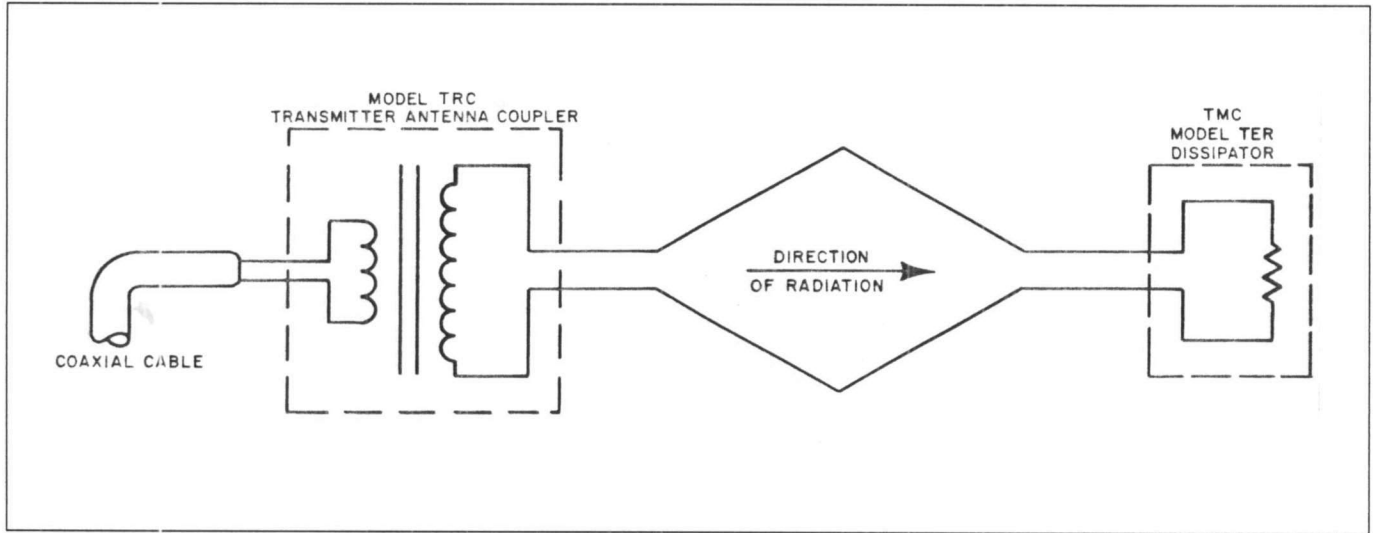
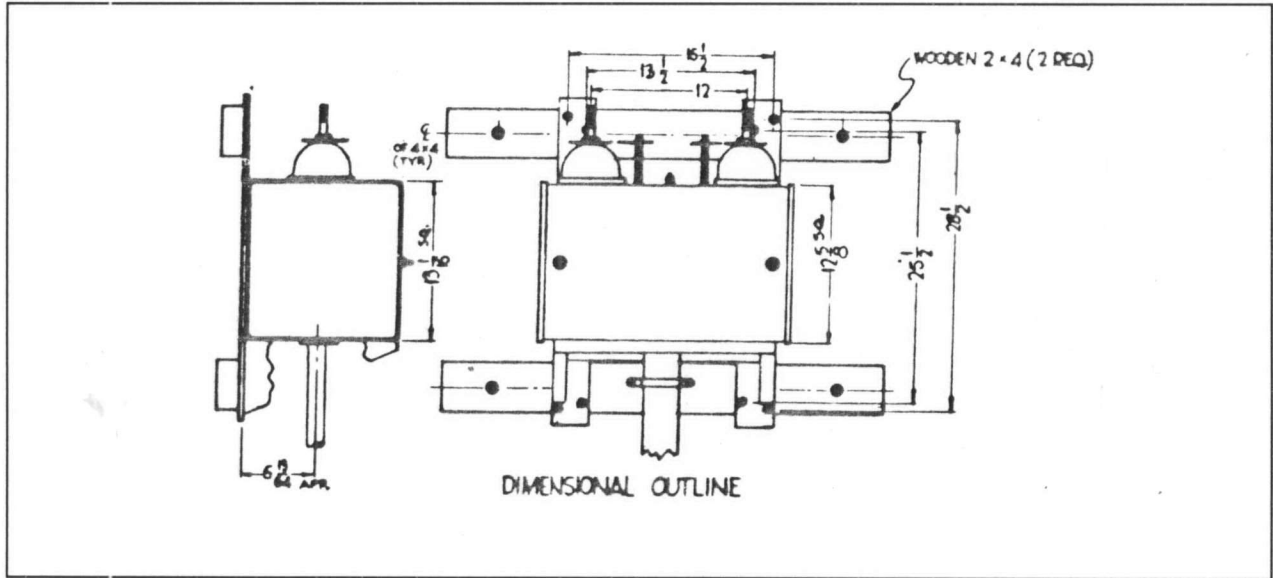

Figure 2.1 Schematic Diagram, Typical Rhombic Antenna System
Figure 2.2 Outline Drawing with Mounting Dimensions
- Figure 2.1** **Schematic Diagram, Typical Rhombic Antenna System**
- Figure 2.2** **Outline Drawing with Mounting Dimensions**
The TRC coupler consists of one broadband transformer housed in a re-inforced fiberglass case for operation in any ambient environment from -50°C to +75°C. Spark gaps provide protection against static electricity on the antenna as well as lightning discharge. Mounts are provided for either pole or wall mounting. Since no maintenance is required, the coupler may be placed in any isolated area, such as an antenna farm. Outline and mounting dimensions of the TRC-20K are shown in Figures 2.2 and 2.3.
The TRC-20K is designed for either pole or wall mounting. For pole mounting, two mounting straps and the necessary lag bolts are provided. For wall mounting, four mounting brackets attached to the unit case are used. Figure 2.2 illustrates the necessary outline and mounting dimensions of the TRC-20K. Figure 2.1 is a schematic illustration of a typical rhombic antenna system in conjunction with the TRC-20K.